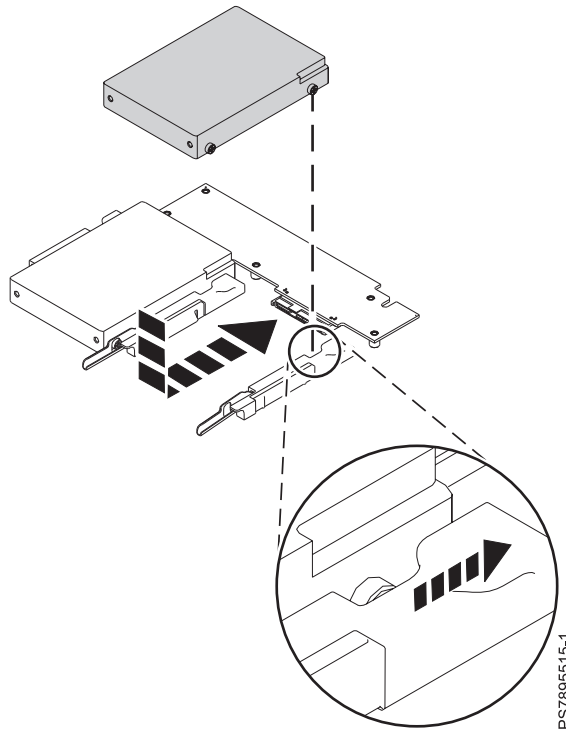

Figure 18. Installing a hard disk drive
Figure 18 shows how to install the hard disk drive.
6. Place the drive into the drive tray and push it toward the rear of the compute node, as indicated in Figure 18 on page 48. When the drive moves past the lever at the front of the tray, it snaps in place.